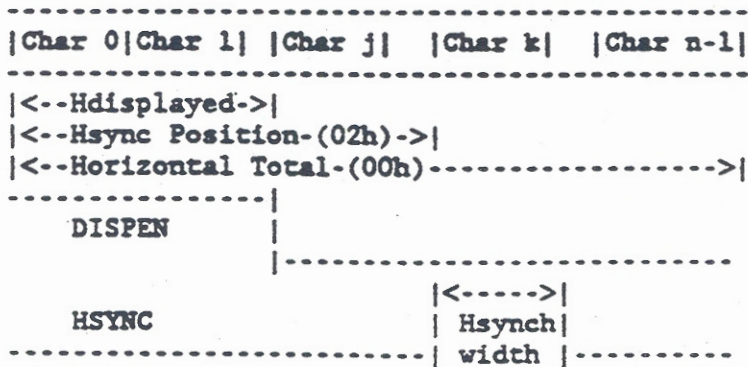

Figure 7-5. Horizontal Registers Relative Timing
Figure 7-5 shows the relative timing of the Horizontal registers. The horizontal line contains *n* characters so that the Horizontal Total is programmed to *n*-1 characters. There are *j* displayed characters so that the Horizontal Displayed register is programmed to contain *j* character positions. The Horizontal Sync Position register contains *k* so that the horizontal sync pulse occurs *k* characters into the line. The Sync Width register (described in the following paragraph) controls the width of the sync pulse.
**NOTE:** The Start Address registers must be written during the Hdisplayed and Vdisplayed portion of the timing (see Figures 7-5 and 7-6).